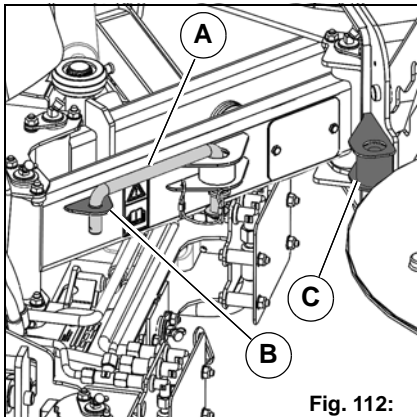

Fig. 112:
The bow **Fig. 112-A** of the transport protection device is located on the brush arm of the 3rd rotating brush.
- Position **Fig. 112-B** = for work mode
- Position **Fig. 112-C** = for transport mode
For reasons of safety, lock the 3rd rotating brush with a bow **Fig. 112-A** before transporting. Mount the bow in position **Fig. 112-C**.